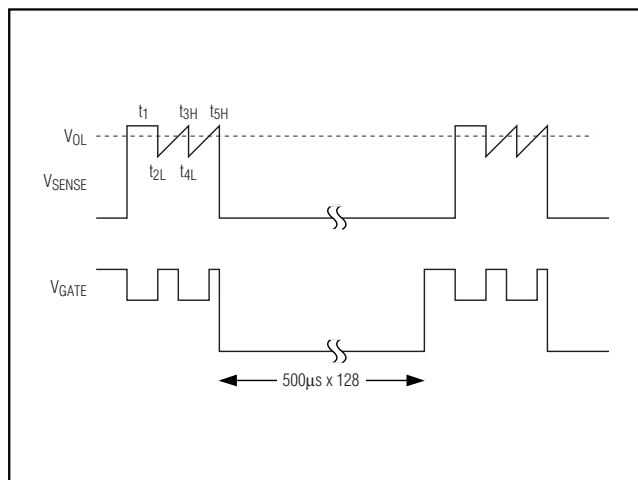

Figure 14. MAX5921A Overcurrent Fault Example
The MAX5921/MAX5939 feature an overcurrent fault integrator. When an overcurrent condition is detected, an internal digital counter is incremented. The clock period for the digital counter is 32μs for the 500μs maximum current-limit duration version and 128μs for 2ms maximum current-limit duration devices. An overcurrent of less than 32μs is interpreted as an overcurrent of 32μs. When the counter reaches 500μs (the maximum current-limit duration) for the MAX5921/MAX5939A, an overcurrent fault is generated. If the overcurrent fault does not last 500μs, then the counter begins decrementing at a rate 128 (maximum current-limit duty cycle) times slower than the counter was incrementing. Repeated overcurrent conditions generate a fault if the duty cycle of the overcurrent condition duty ratio is greater than the maximum current-limit duty cycle (see Figure 14).
- If an optocoupler is utilized as in Figure 14, determine the LED series resistor: